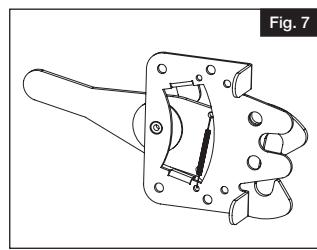

Fig. 7
- c. Flip the post plate over so the “finger” brackets face the left and re-attach the spring, as shown (Fig. 7).